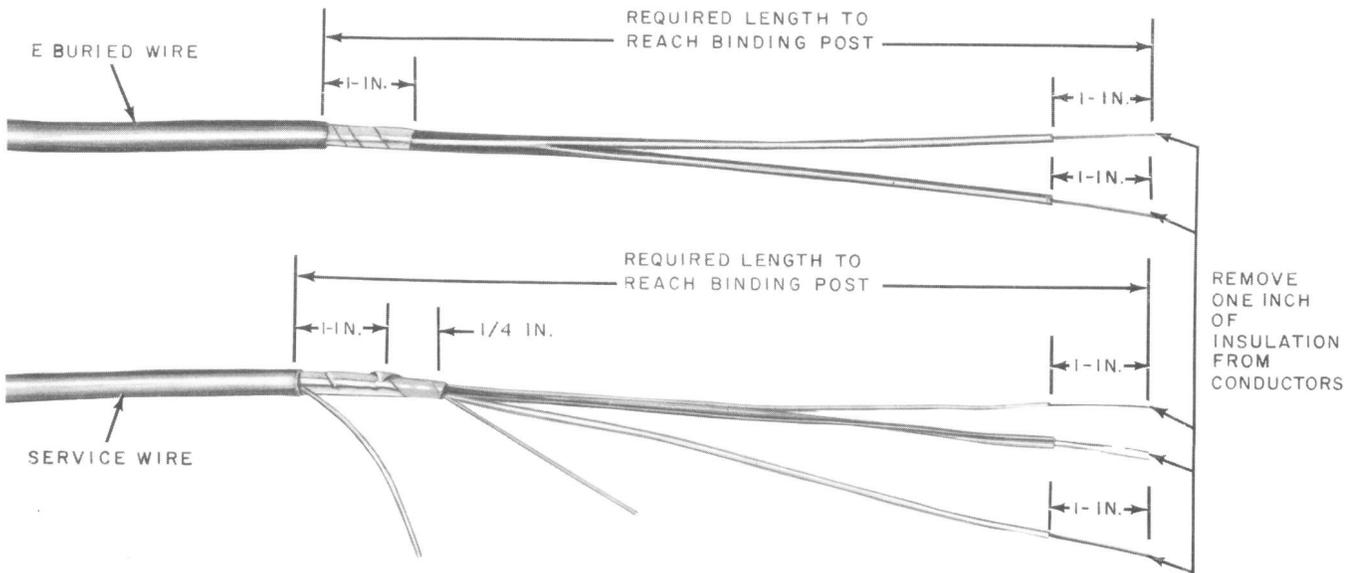

Fig. 7—Prepared Service and Buried Wires
- 5.04** Prepare the buried service wire and E buried wire as shown in Fig. 7.
6.01 Prepare the buried wires as shown in Fig. 7. Then terminate the **IN** and **OUT** buried wires on separate binding post of the connecting block (Fig. 9).